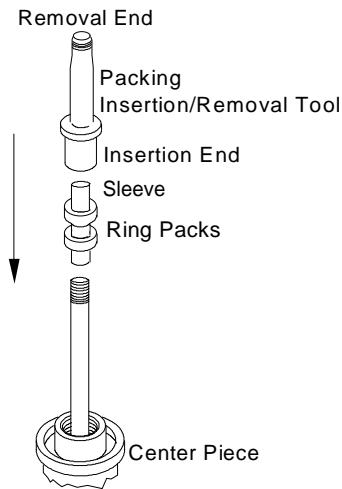

Figure 6: Using Sleeve
10. Remove and discard the old stem liner. See Figure 6.